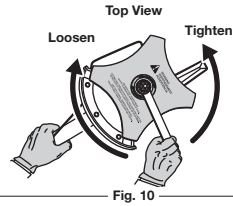

Fig. 10
8. Tighten nut counterclockwise against the blade while holding the locking rod (Fig. 10):
- Without a torque wrench, use a 13 mm closed-end or socket wrench, turning the nut until the blade retainer is snug against the shaft bushing. Make sure that the blade is installed correctly, then rotate the nut an additional 1/4 to 1/2 turn counterclockwise (Fig. 10).
3. While holding the locking rod, loosen the nut on the blade by turning it clockwise with a 13 mm closed-end or socket wrench (Fig. 10).